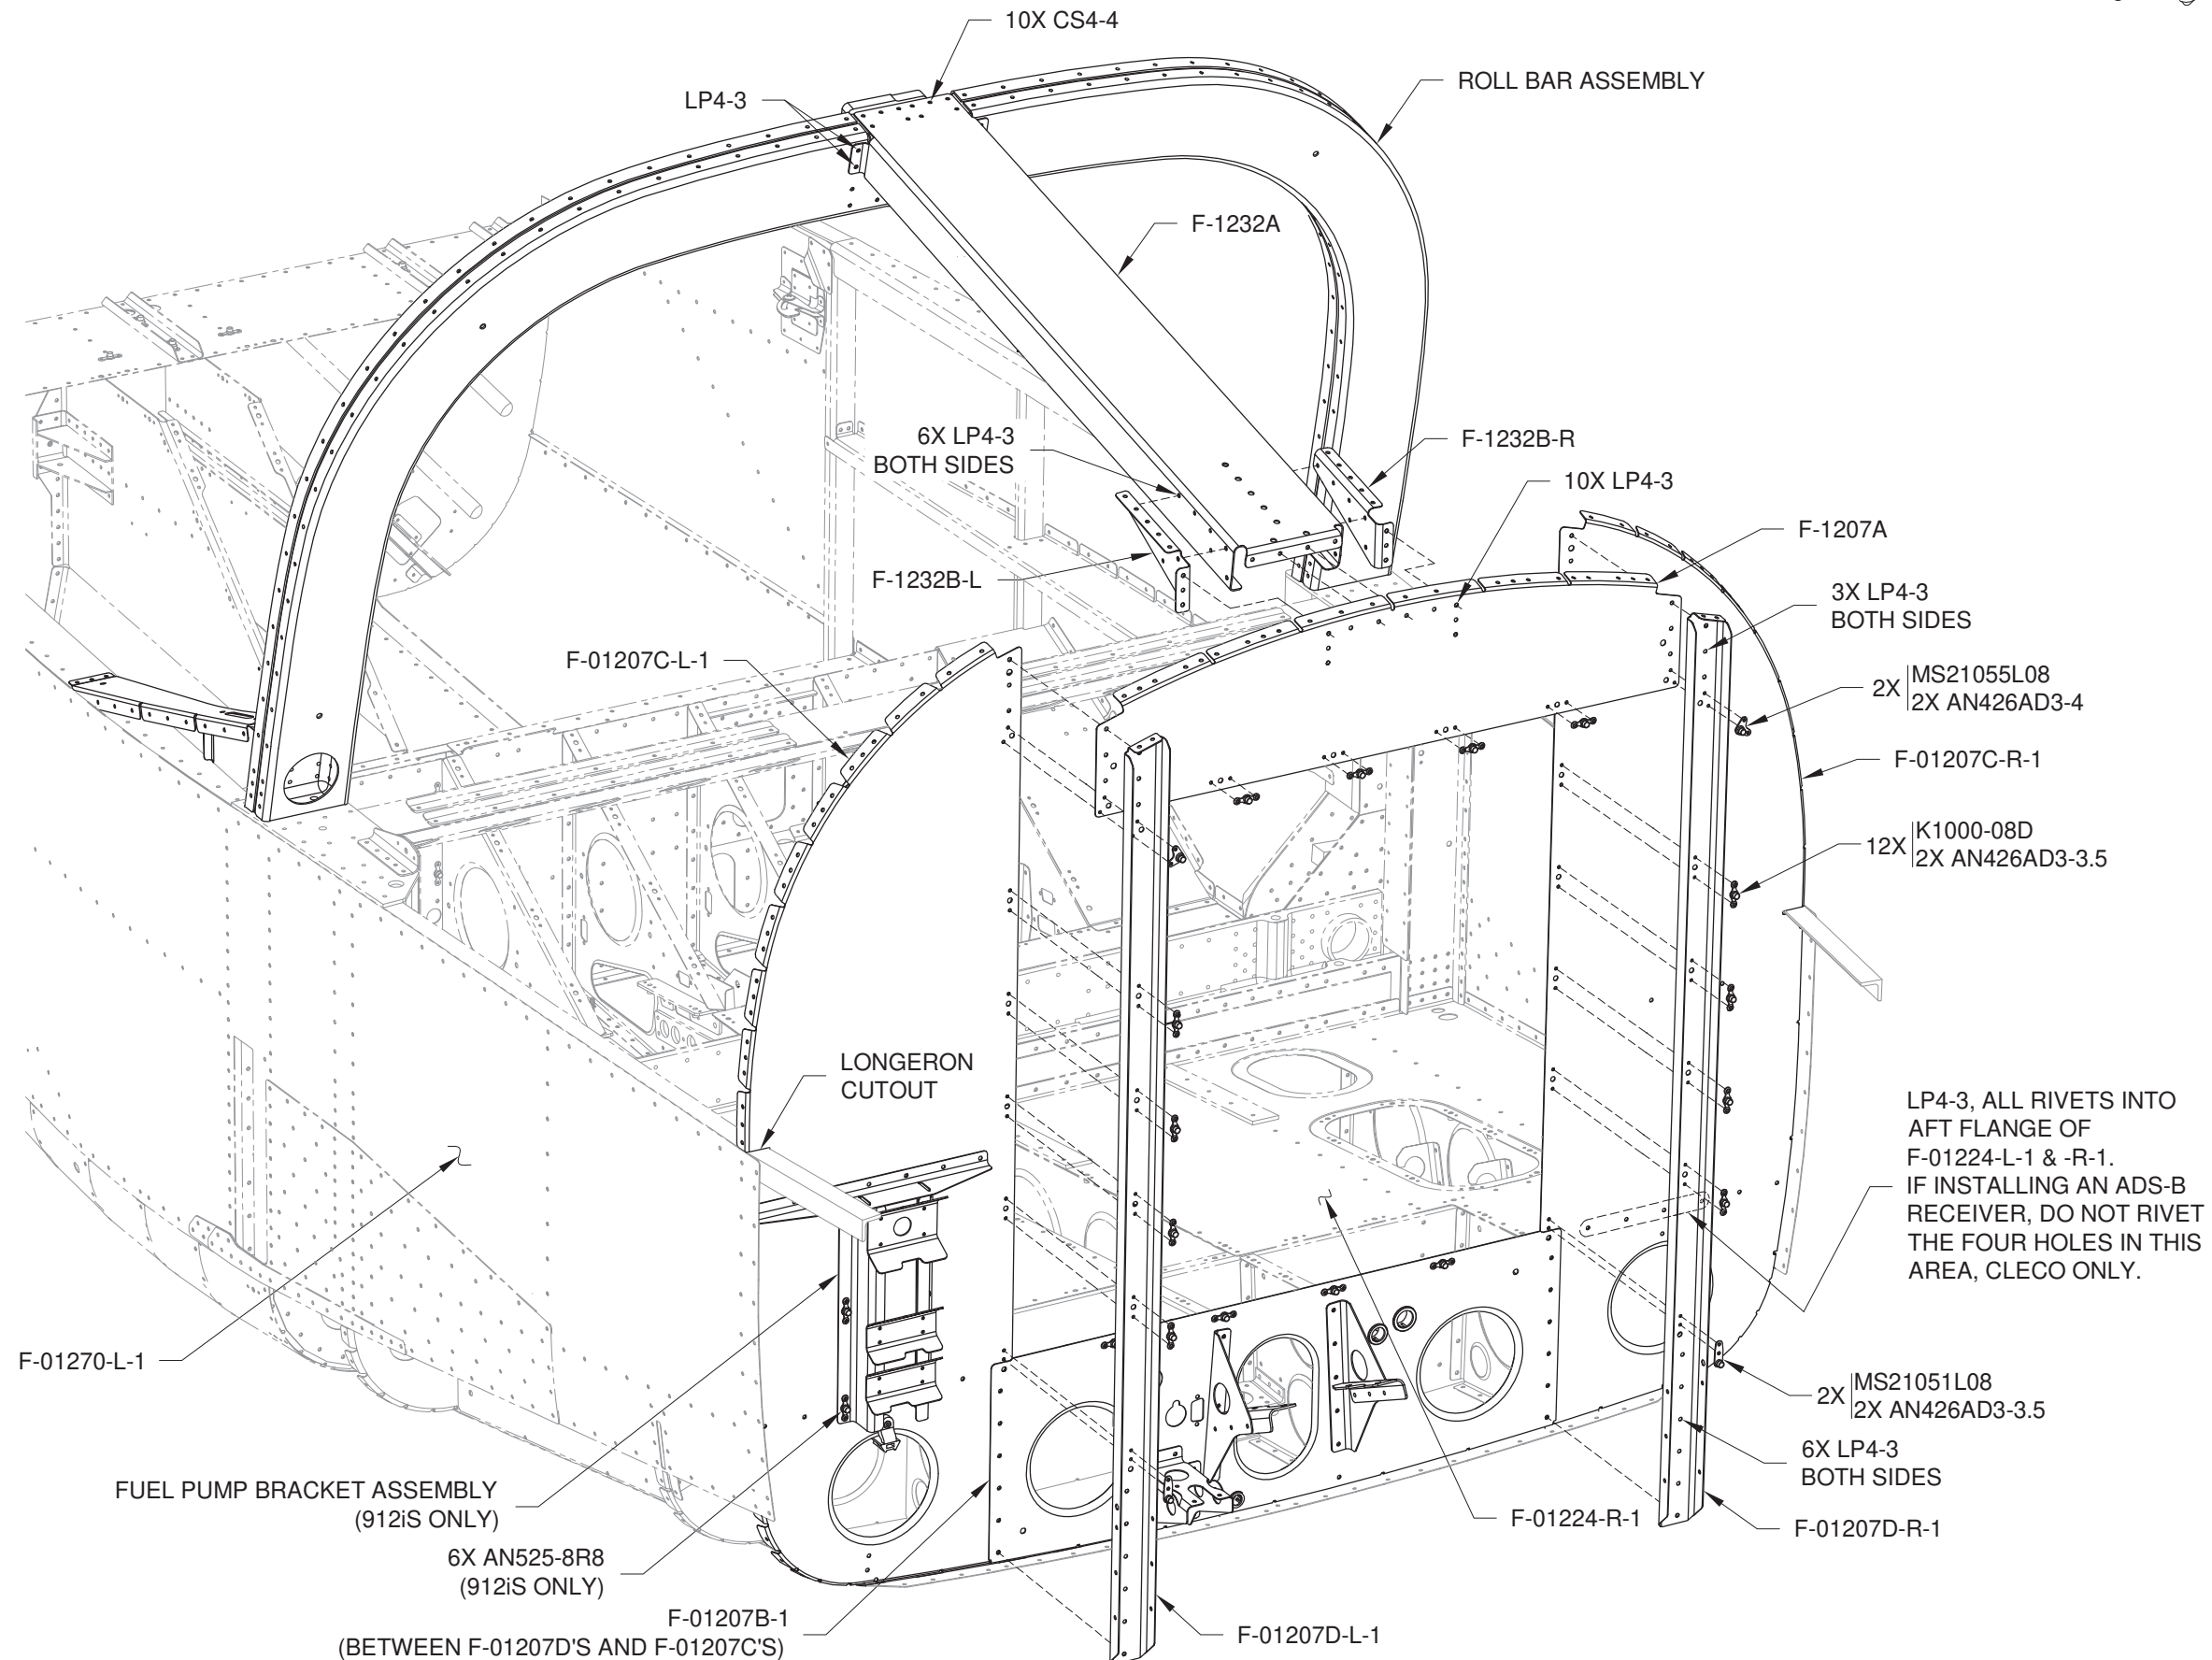

FIGURE 1: F-01207 BULKHEAD ASSEMBLY
Step 9 (912iS Only): Reattach the Fuel Pump Bracket Assembly to the F-01207C-L-1 using the screws called out in Figure 1.
Step 1: Machine countersink the rivet holes in the F-012109A as indicated in Figure 1.